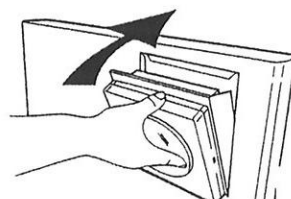

Fig.8
6. Mount the recorder fixture with recorder to the right side of front cover. (Fig. 8)